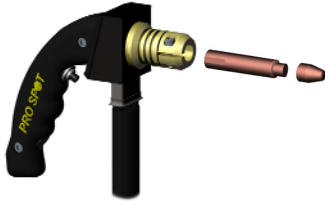

Figure 6.9
2. Fit the Single-Sided Gun with Single-Sided electrode (*fig. 6.9*).